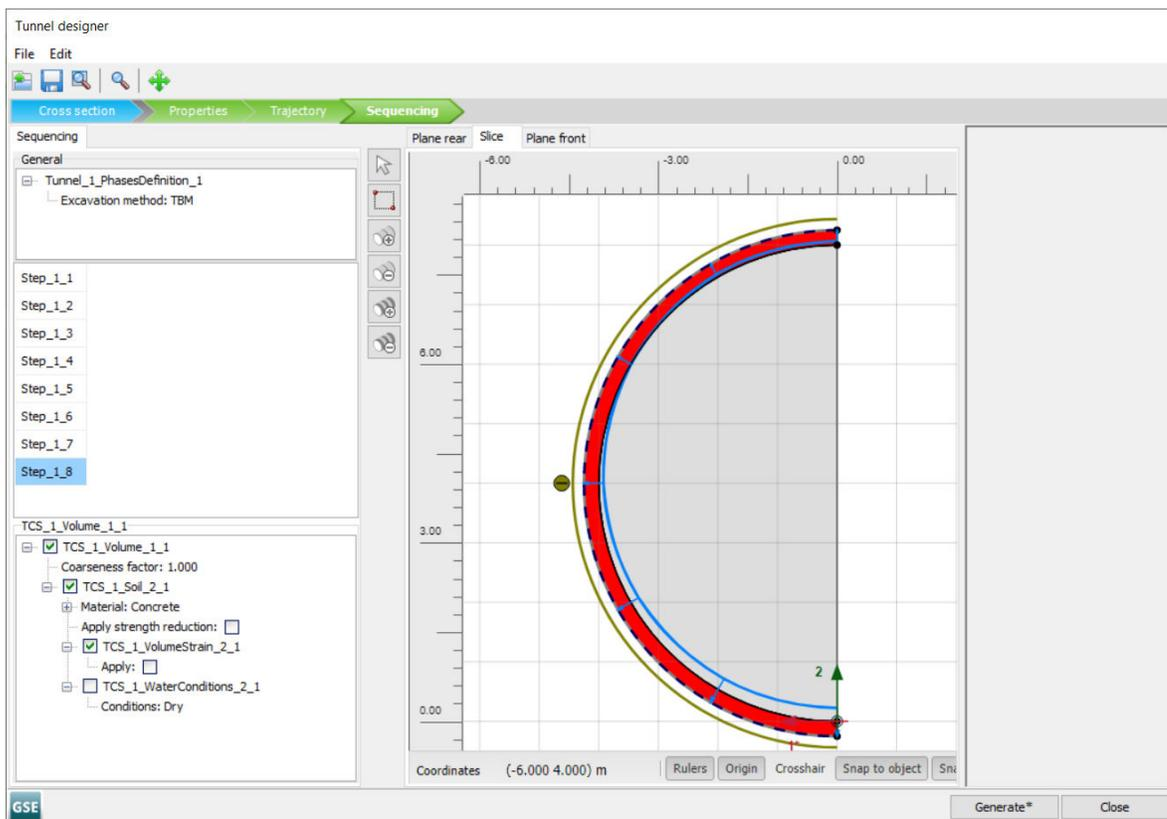

Figure 75: Slice tabsheet in the **Tunnel designer** Step_1_8
- In the **Slice** tabsheet again, select the outer volume. Activate it, click the material and select the **Concrete** option from the drop-down menu (Figure 75 (on page 101)).